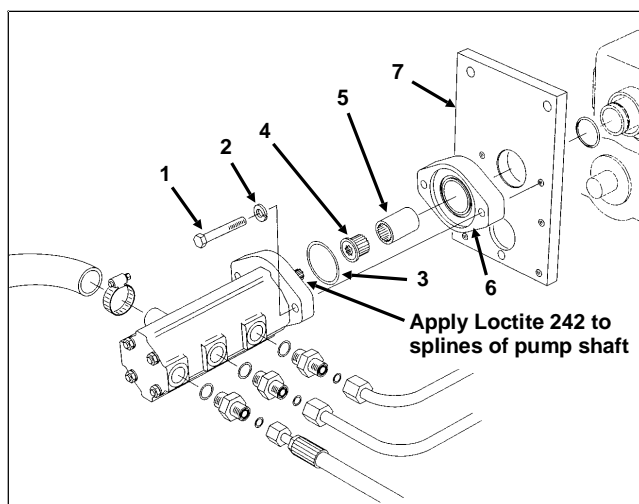

Figure 92
1. Lubricate a new o-ring with clean hydraulic oil and install on pump (Fig. 92).
3. Install transmission coupling on pump shaft and install pump on to transmission adapter. Secure pump and transmission adapter to support plate with two (2) capscrews and lock washers.